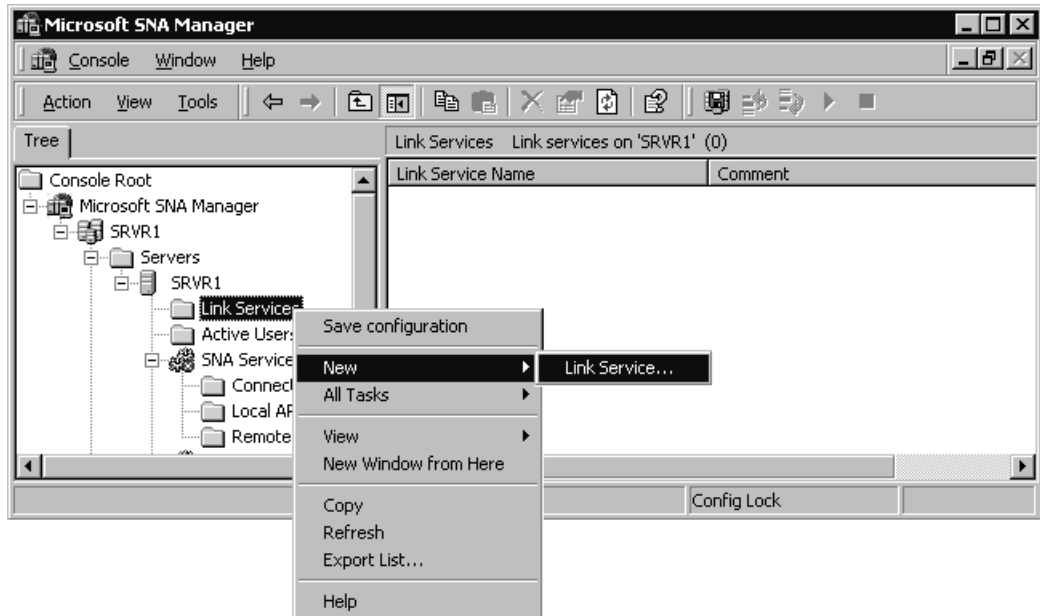

Figure 8-7. Add a New Link Service
2. Use the right mouse button to start the New Link Service task (See Figure 8-7).